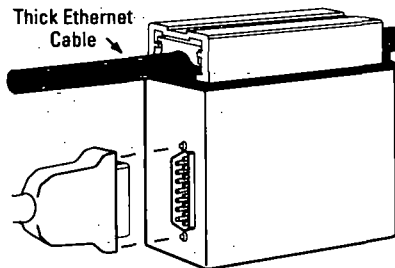

Figure 17. Attaching the Transceiver
3. Connect the other end of the AUI drop-cable to the MAU transceiver (Figure 17). Secure the AUI connector with the sliding latch.